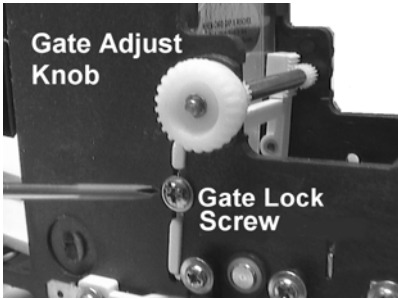

Figure 8
1. Loosen Gate Lock Screws on both sides (see Figure 8)